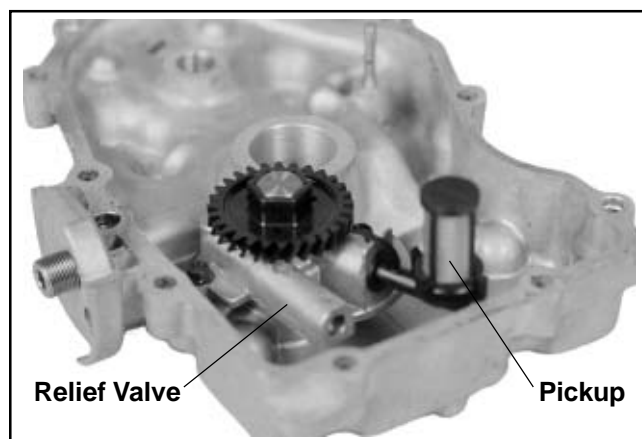

Figure 10-15. Oil Pump, Oil Pickup, and Relief Valve (Original Style).
5. If the relief valve is like that shown in Figure 10-15, drive out the pin to remove the oil pressure relief valve piston and spring. Refer to the following inspection and reassembly procedures.